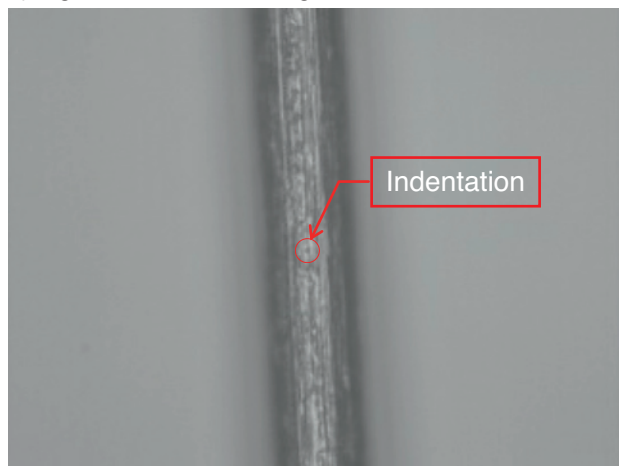

Fig. 4 Indentation in Tungsten
4) Figs. 4 and 5 show images of the indentation.